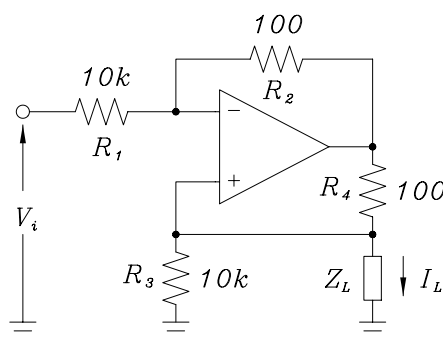

Figure 8: Voltage to current converter
- (30) By noting that $V_+ = V_-$ in Fig. 8 and using the nodal equations for the amplifier input terminals, show that: